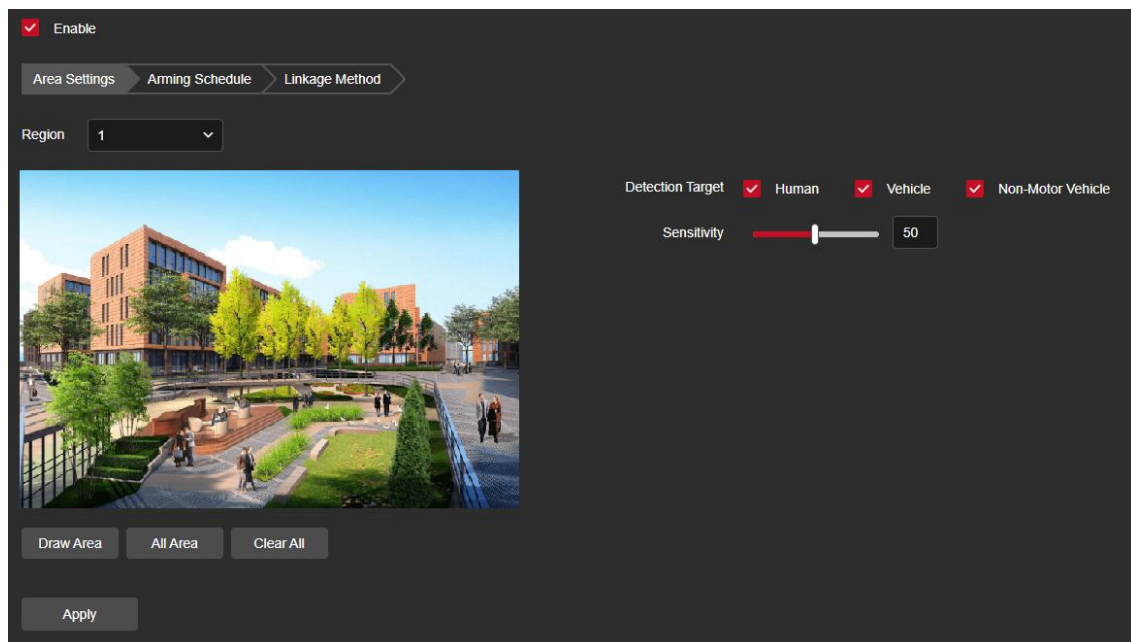

Figure 8-6-24
Step 1: In the main interface click on the "Configuration → Event → Smart Event → Enter Area" to enter the Enter Area Detection settings interface, as shown in Figure 8-6-24.